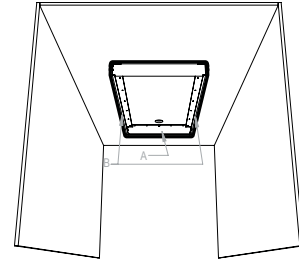

Figure 5A
- Installation via the end cap (Fig. 5A)
6. Secure the frame section on the side opposite the clearance to the ceiling (Fig. 5A) using No. 8 screws (not included). Use all the holes provided for this purpose.